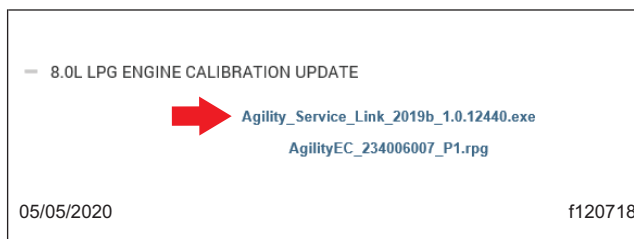
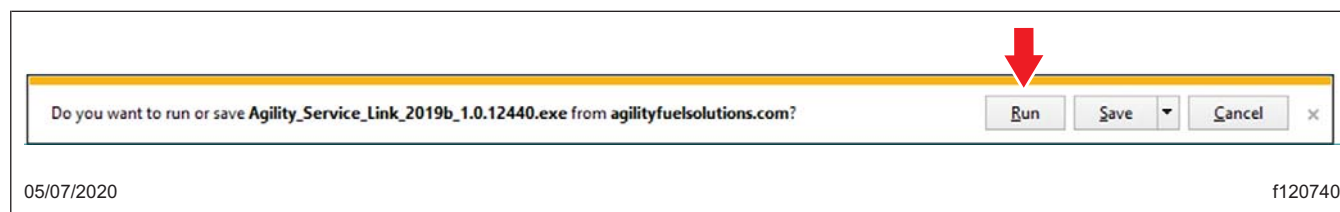

Fig. 3, Selecting the Agility Service Link
Fig. 4, Selecting Run
7. Select the Agility Service Link shown in Fig. 3. Select 'Run' to install in the program software. See Fig. 4.